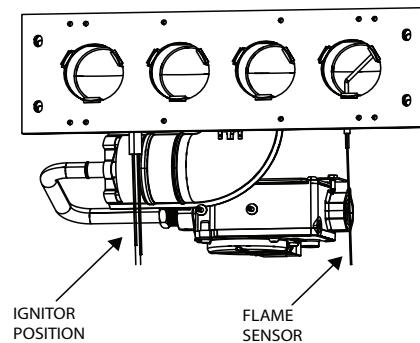

Fig. 73 – Igniter Position - Back View
- a. Using a 1/4-in. driver, remove the screw securing the flame sensor to the burner assembly, see Fig. 73. Retain factory-provided 1/4-in. screws.
7. To replace flame sensor and bracket assembly, reverse items 6a through 6d.
8. Reconnect flame sensor wire to the wire harness, dressing the sensor wires to ensure there is no tension on the flame sensor itself, see Fig. 73.
The igniter does **NOT** require annual inspection. Check igniter resistance before removal, see Fig. 73.
- a. Using a 1/4-in. driver, remove the two screws securing the igniter mounting bracket to the burner assembly, see Fig. 73. Retain 1/4-in. length screws.
6. To replace igniter and bracket assembly, reverse items 5a through 5d.
7. Reconnect igniter harness to the igniter, dressing the igniter wires to ensure there is no tension on the igniter itself, see Fig. 73.